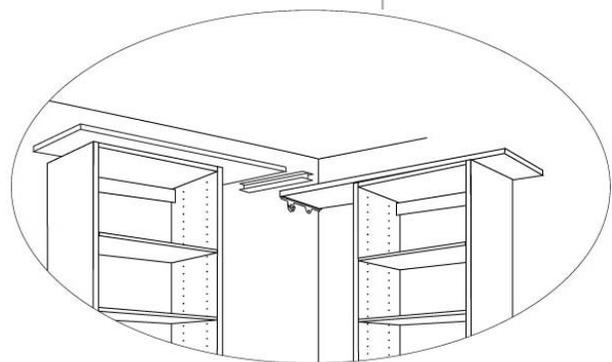

Fig. 8
3. After installing the full length top shelf, measure, mark and cut the shorter connecting top shelf material, subtracting the lengths of the depth of the full length top shelf and 1/8" to 1/4" for the thickness of the 3/4" Shelf Joiner. (See exploded view, Fig. 8.)
5. Screw in four (4) #8 x 1/2" screws through the four (4) mounting holes on the underside of the Shelf Joiner.
6. To connect 3/4" cammed top shelving material in a corner (see Fig. 8 on previous page), trim a 18" cammed shelf to fit the gap, subtracting the width (1/8" – 1/4") of the 3/4" Shelf Joiner.